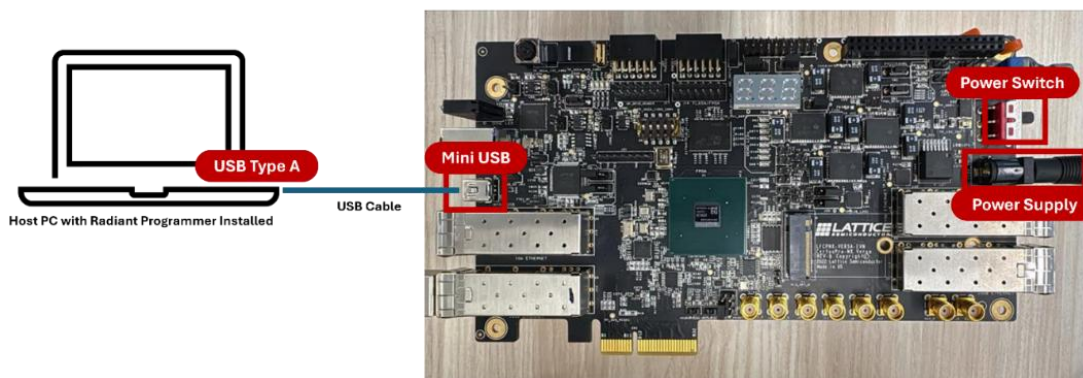

Figure 6.12. Hardware Setup for Bit File Programming
1. Connect the board to the PC using a mini-USB Type-A cable, as shown in Figure 6.12. Connect the power adaptor to the board power port and turn the switch **ON**. The board is now ready to be programmed.